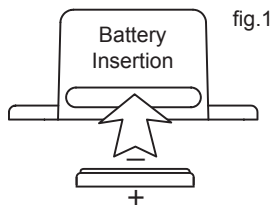

fig.1
Peel back the black sticker cover of the battery slot and slide the coin cell battery into the sensor as shown in fig.1. It will power on within 10-20 seconds. Once online, your sensor is ready to be deployed. If you wish to change a sensor configuration, change the parameter in the software. The new parameters will be transmitted to the sensor on the next heartbeat. If you need a more immediate response from the sensor, power cycle the sensor by removing, then re-inserting the battery.
- Note the proper orientation of battery in fig.1